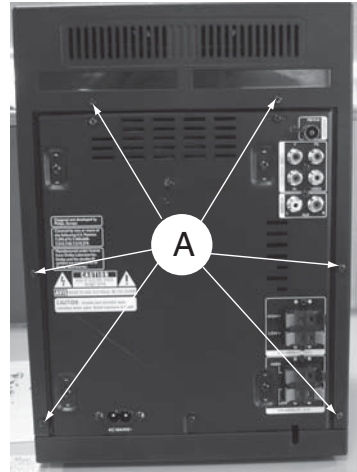

Figure 1
- 6 screws "A" at the back panel as shown in figure 1.